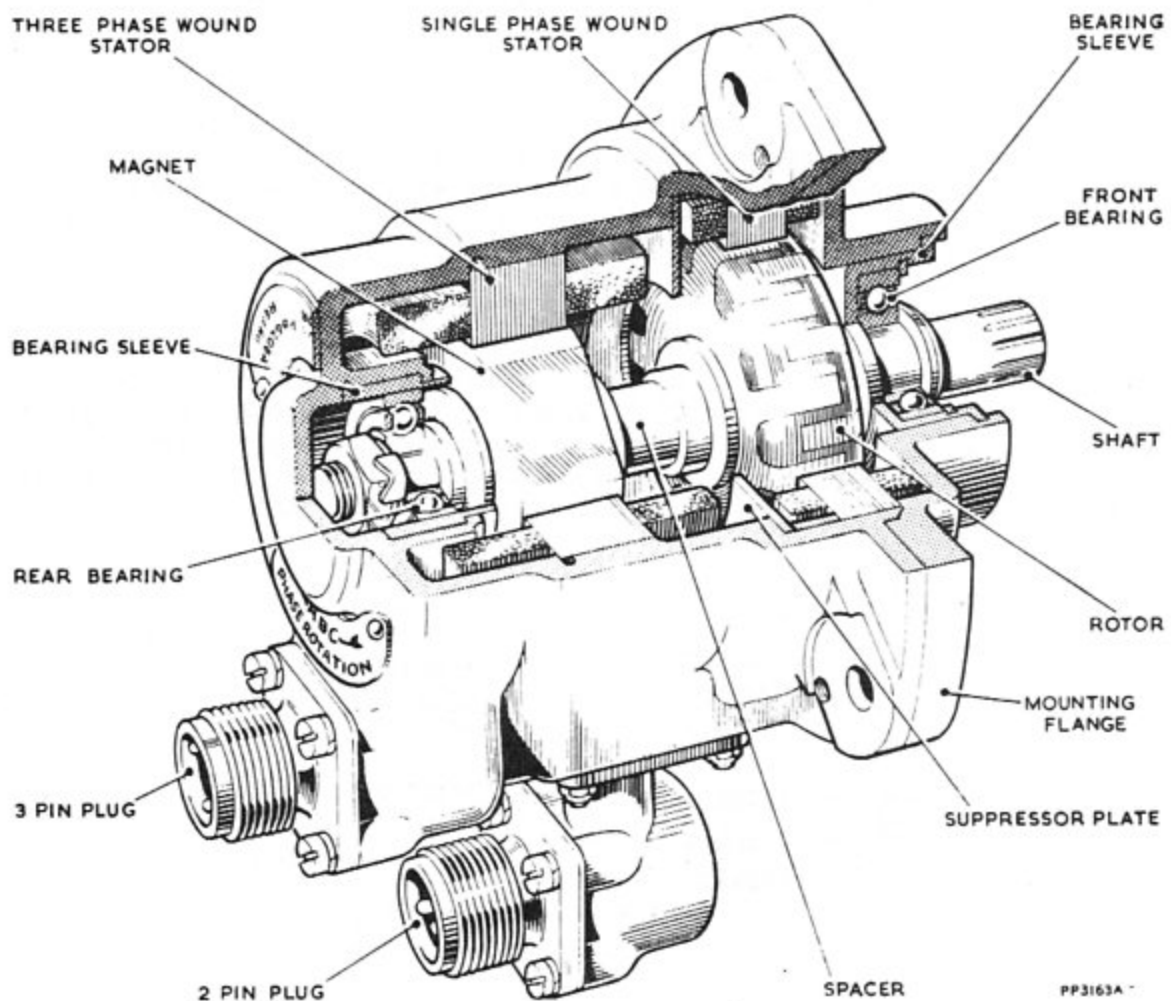

Fig.1 Dual tacho-generator - sectional view
1. Other than minor differences in the case mounting flanges the type B16206A, B17140A, and B18206A generators are identical in construction and operation. Each dual tacho-generator (fig.1) provides two independent outputs, one single phase and the other three phase. The level and frequency of the outputs are dependent on the shaft rotation speed.